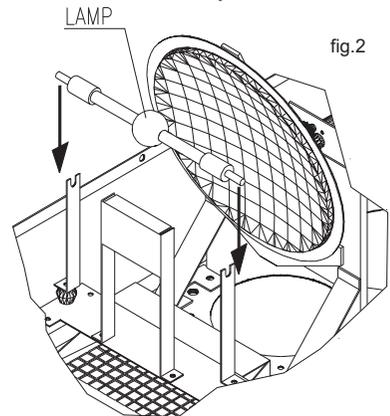

fig.2
- 3) Fix the lamp to the lamp holder tightening the fixing knobs (see fig. 2).